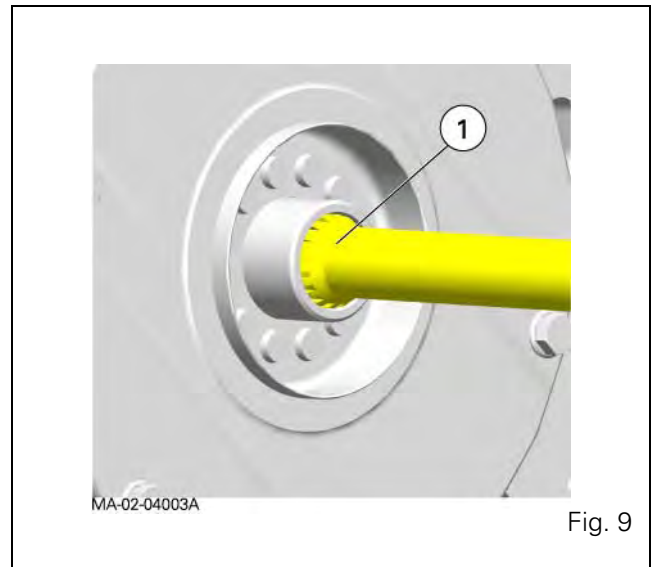

Fig. 9
25. Lightly lubricate the splines of main shaft (1) (Fig. 9) with grease (type GN + Molykote) or equivalent.